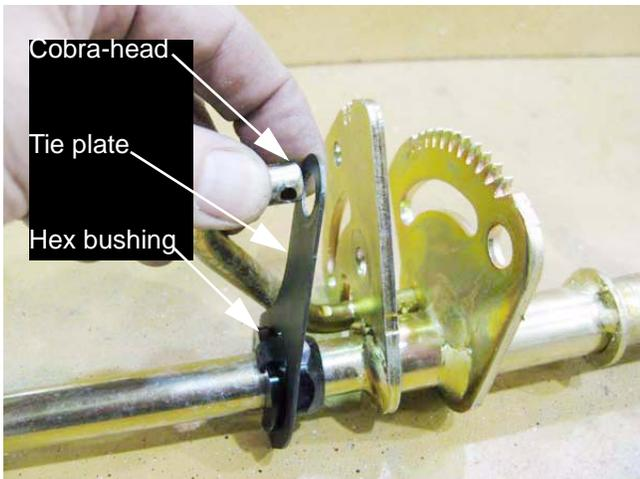

Figure 6.28
14. Disconnect the cobra-head rod from the pedal shaft tie plate. See Figure 6.28.